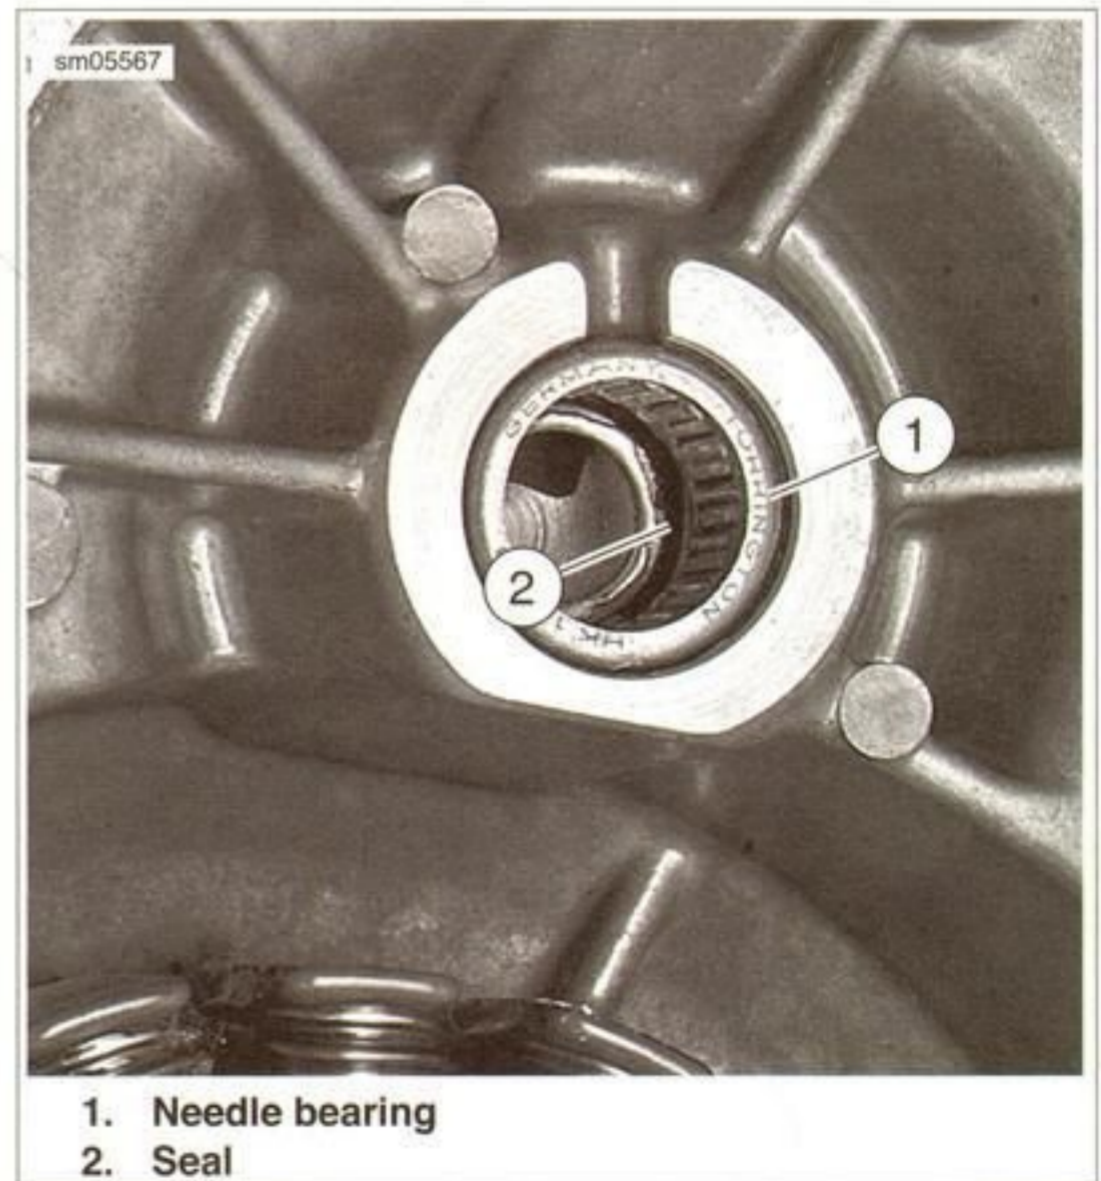

Figure 3-151. Balancer Shaft Support in Ignition Cover
3. See Figure 3-151. Inspect the needle bearing (1) and oil seal (2) in the ignition cover. Replace as required: